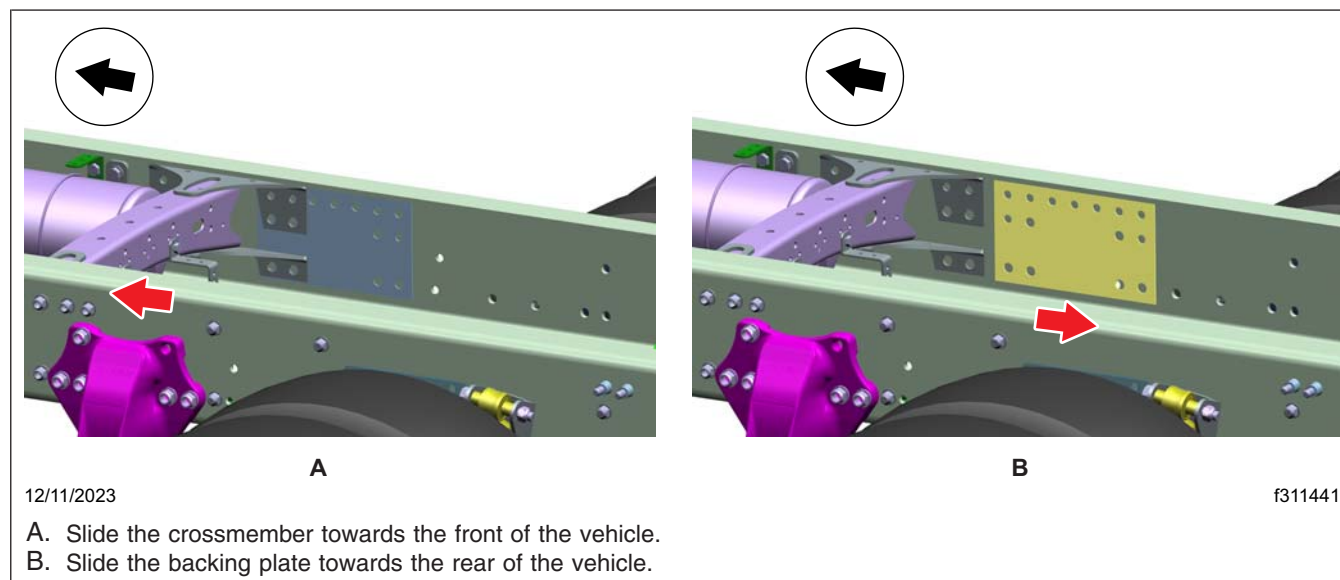

Fig. 8, Sliding the Crossmember and the Backing Plate
11. Use a portable power source to spread the frame rails slightly, then slide the crossmember towards the front of the vehicle, as shown in Fig. 8.
12. Slide the right-hand side backing plate towards the rear of the vehicle to remove it. Discard the right-hand side crossmember backing plate. See Fig. 8.